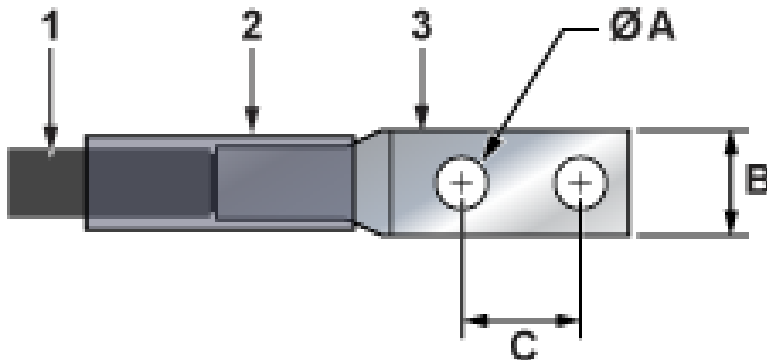

Figure 9: Lugs Wiring Terminations
6. Crimp the lugs with the proper tool, and ensure that the tubing extends over the barrel of the lugs and the insulation on the wires (Figure 9: Lugs Wiring Terminations).